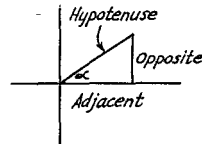

Fig. 3
Suppose we have an angle α (the Greek letters α (alpha), β (beta), and θ (theta) are most frequently used to represent the angles) in the first quadrant, as shown in Fig. 3. The longest side of a right triangle is always known as the *hypotenuse*, the side opposite the angle under consideration is known as the *opposite* side, and the third side is known as the *adjacent* side. This is illustrated in Fig. 3. We can now define the three most important and fundamental *trigonometric functions*, the *sine*, the *cosine*, and the *tangent*, commonly abbreviated as *sin*, *cos*, and *tan*.
2. Remember the old rule from plane geometry that the square of the length of the hypotenuse of a right triangle is equal to the sum of the squares of the lengths of the other two sides? Well, here's a use for it. Applying the rule to the triangle in Fig. 3, we have